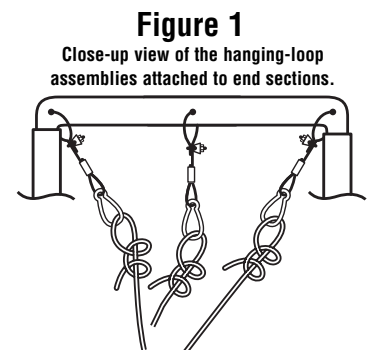

Figure 1
3. After hanging the net on the middle frame sections, making sure that it does not sag more than 1-2', pull the ropes towards the end frames to stretch it out. Attach each rope to the end frame sections with the corresponding hanging-loop assemblies. See Figure 1.